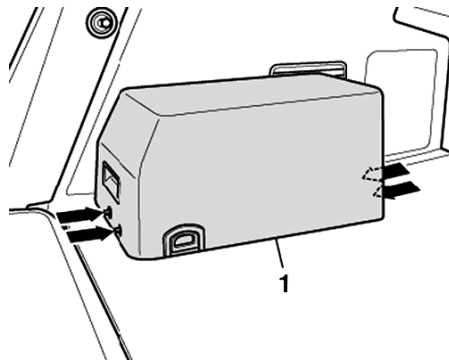

Fig. 1 Battery cover removal
4. Turn latches (arrows) counterclockwise and remove from battery cover (1), **Fig. 1**.